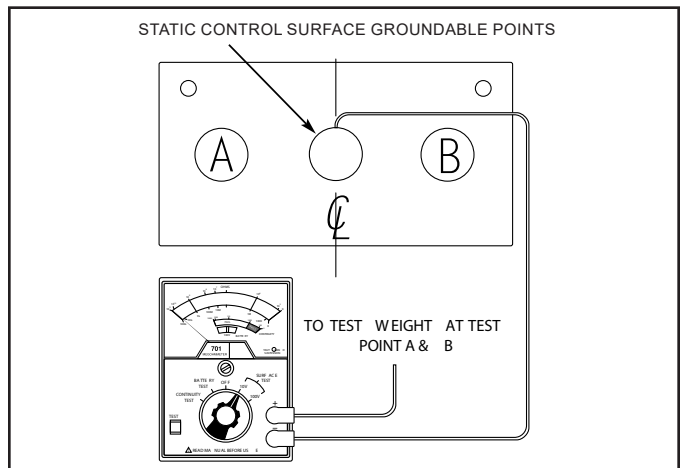

Figure 8. Material Evaluation Surface to Surface Test.
- E. Surface-to-surface Test: Test samples as shown in Figure 8 use both test weights and repeat the same test procedure used to determine (RTS-TS).